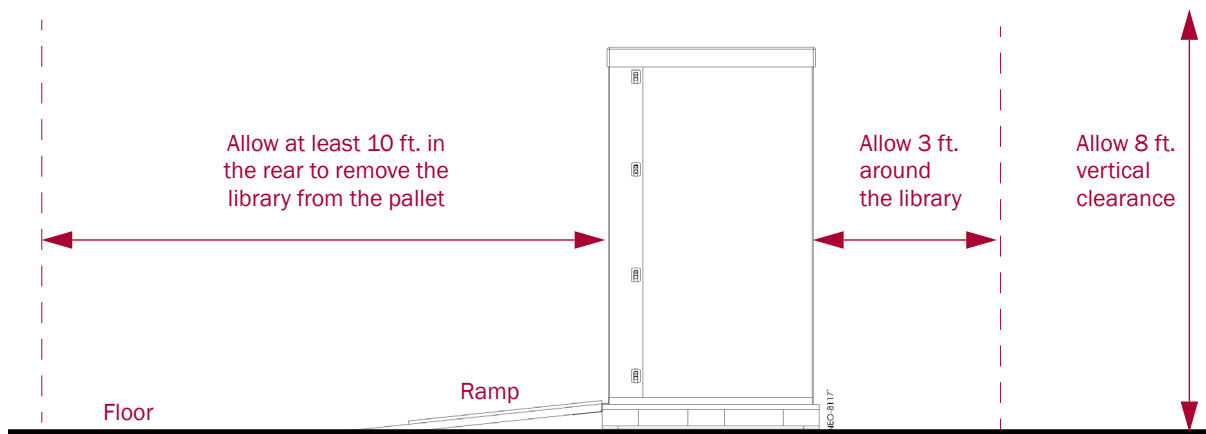

Figure 2. Unpacking Space Requirements
1. Position the **shipping container** on a level surface with adequate clearance to work around it (Figure 2 on page 2).